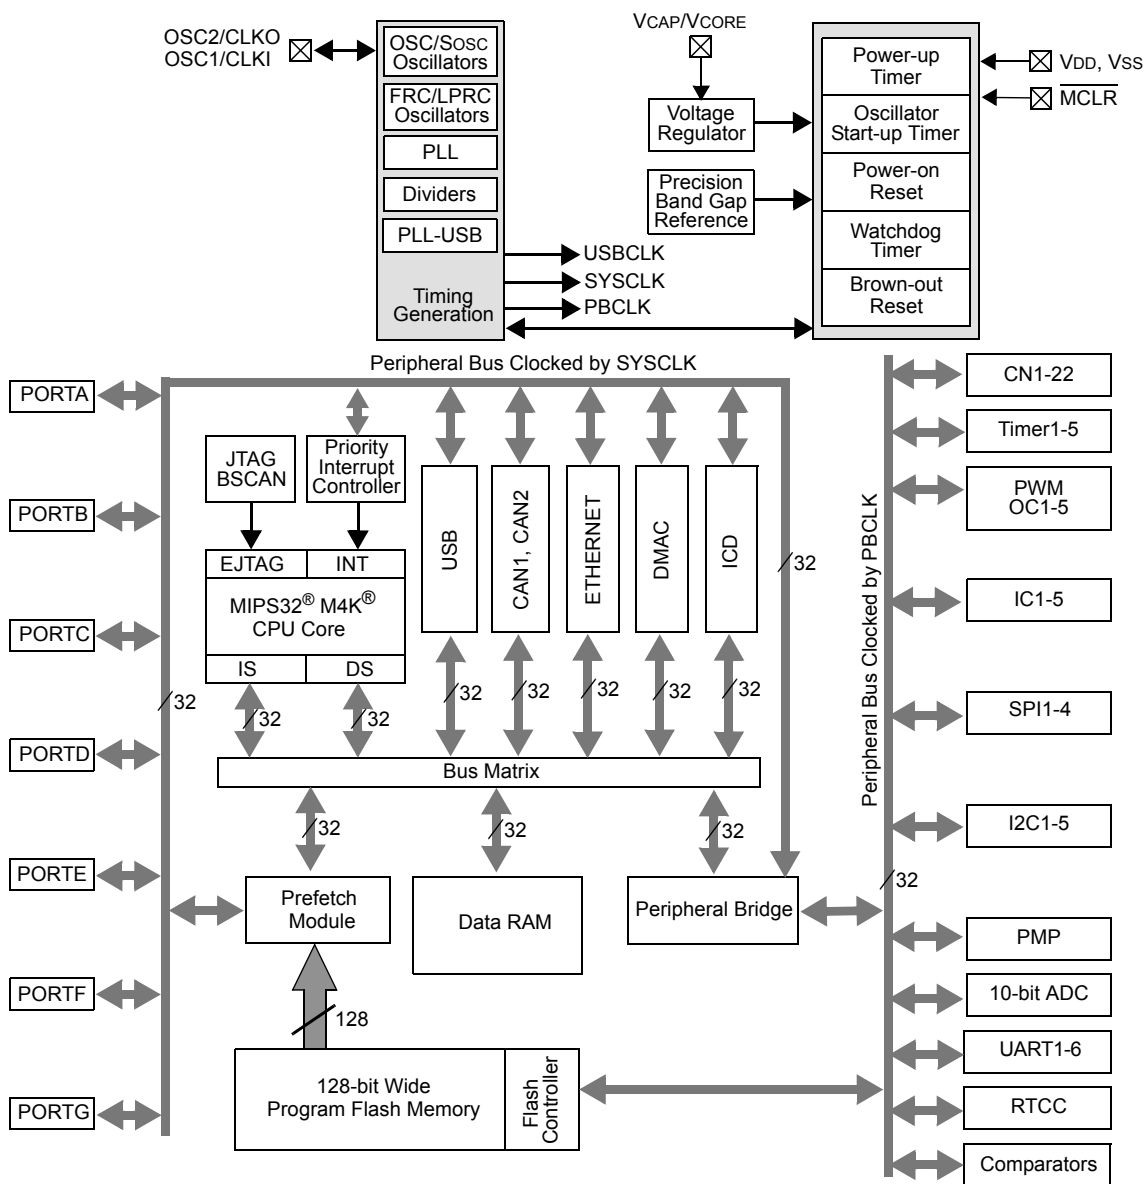

Figure 2.2: The PIC32MX5XX/6XX/7XX architecture.
Figure 2.2 depicts the PIC32’s architecture. Of course there is a CPU, program memory, and data memory. Perhaps most interesting to us, though, is the plethora of *peripherals*, which are what make microcontrollers useful for embedded control. From left to right, top to bottom, these peripherals consist of PORTA . . . PORTG, which are digital I/O ports; 22 change notification (CN) pins that generate interrupts when input signals change; five 16-bit counters (which can be used as one 16-bit counter and two 32-bit counters by chaining) that can be used for a variety of counting operations, and timing operations by counting clock ticks; five pins for output pulse-width modulation (PWM) pulse trains (or “output compare” OC); five pins for “input capture” (IC) which are used to capture timer values or trigger interrupts on rising or falling inputs; four SPI and five I²C synchronous serial communication modules; a “parallel master port” (PMP) for parallel communication; an analog-to-digital converter (ADC) multiplexed to 16 input pins; six UARTs for asynchronous serial communication (e.g., RS-232, RS-485); a real-time clock and calendar (RTCC) that can maintain accurate
Note that the peripherals are on two different buses: one is clocked by the system clock SYSCLK, and the other is clocked by the peripheral bus clock PBCLK. A third clock, USBCLK, is used for USB communication. The timing generation block that creates these clock signals and other elements of the architecture in Figure 2.2 are briefly described below.